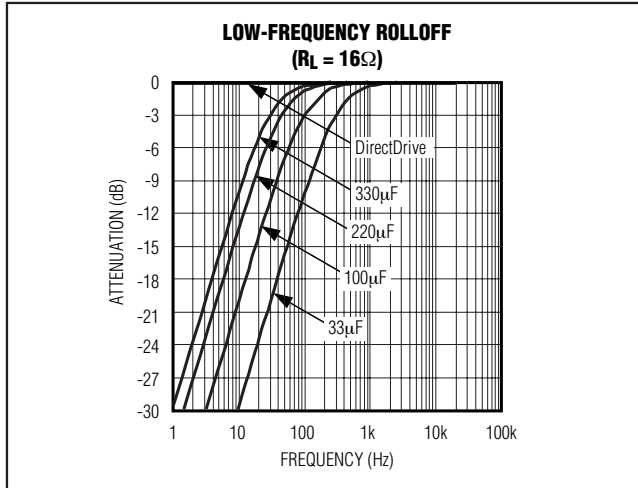

Figure 2. Low-Frequency Attenuation of Common DC-Blocking Capacitor Values
- The highpass filter is required by conventional single-ended, single-supply headphone amplifier to block the midrail DC component of the audio signal from the headphones. Depending on the -3dB point, the filter can attenuate low-frequency signals within the audio band. Larger values of C_{OUT} reduce the attenuation, but are physically larger, more expensive capacitors. Figure 2 shows the relationship between the size of C_{OUT} and the resulting low-frequency attenuation. Note the Vista's magnitude response specification calls for a -3dB point at 20Hz at the headphone jack. The -3dB point at 20Hz for a 32Ω headphone requires a 330µF blocking capacitor (Table 2).